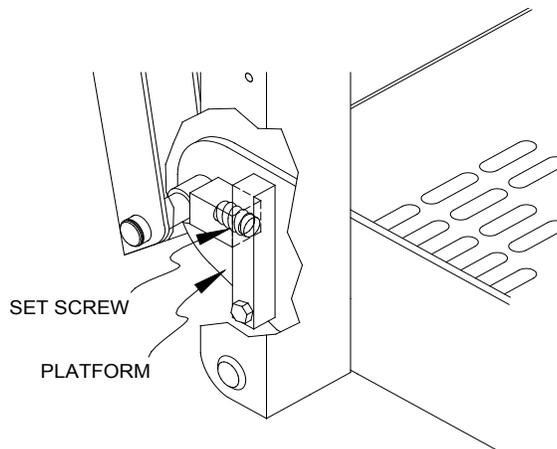

FIGURE 2-11: PLATFORM SET SCREWS
- b. Refer to **Figure 2-11**. Adjust left and right platform set screws until platform is level at zero degrees. Turn setscrews clockwise to angle front-end of platform upward, or counter-clockwise to angle downward.